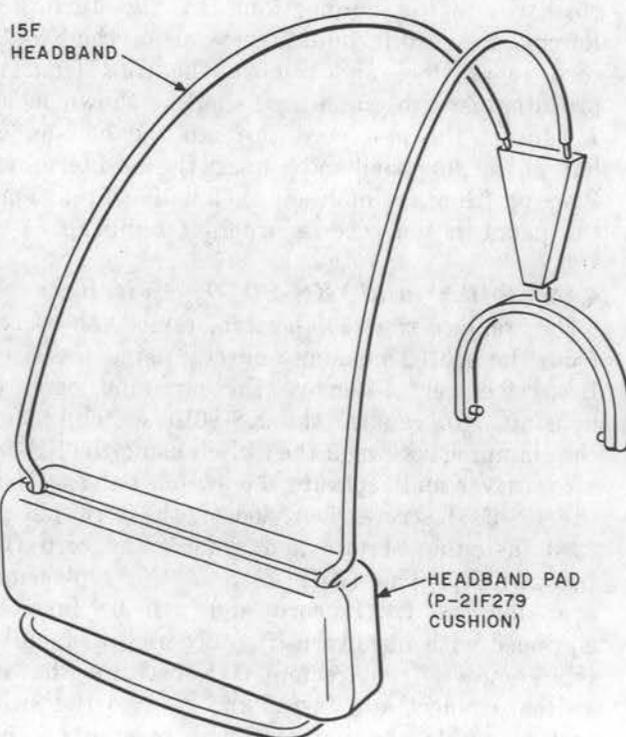

Fig. 14—Synthetic Foam Headband Pad
**4.46** To replace the headband pad, remove the old pad from the headband. Substitute the new pad and pass the free end of the headband through the slot of the pad, making sure the thicker side of the pad is on the inner side of the headband as shown in Fig. 14.